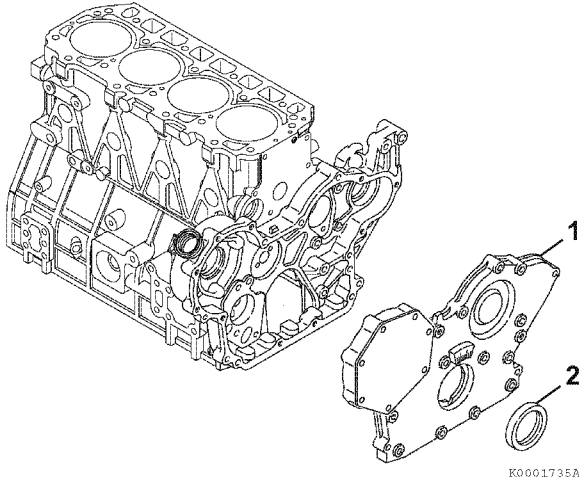

Figure 6-65
1. Remove the seal (Figure 6-65, (2)) from the cover (Figure 6-65, (1)).
2. Apply a continuous bead of ThreeBond Liquid Gasket No. 1207F, YANMAR Part No. 977770-1207F to the outside diameter of a new oil seal (Figure 6-65, (2)), and install in the gear case cover. Apply lithium grease to the lip of the seal.